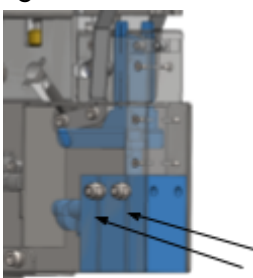

Figure 10
Figure 10 shows the make up of the female knife cutting device.
Step 1: Remove the nuts and hexagon socket head screws shown in Figure 10.
Step 8: Push the air hoses into the correct coupling. Green hose in the upper coupling, red hose in the lower coupling. Slide the entire cutting device back into the TagMatic and secure it with the Allen screws, washers and locking nuts (figure 10).